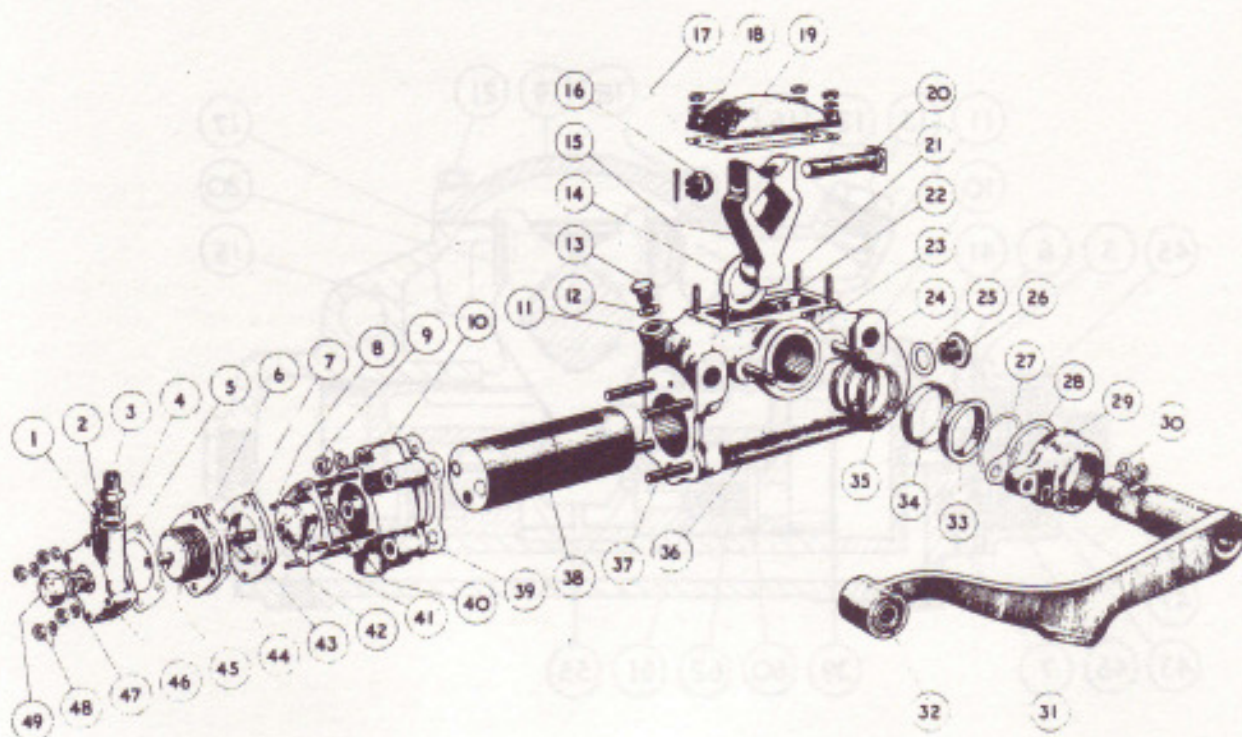
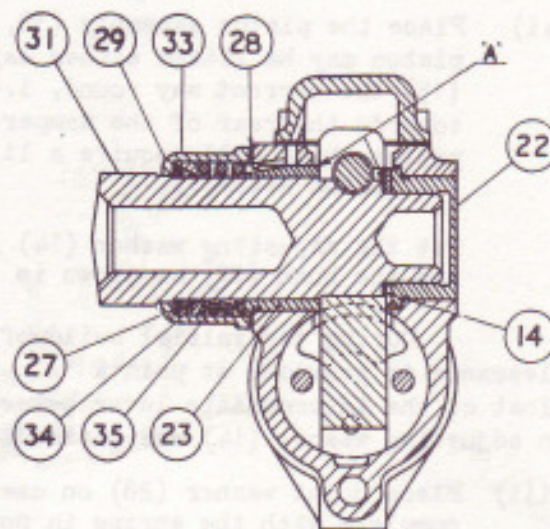

FIG. 1. "EXPLODED" VIEW OF REAR SHOCK DAMPER.
FIG. 3. SECTION THROUGH REAR DAMPER AND GLAND.
- (a) Before attempting to remove the filling plug (13, Fig.1), both the plug and the shock damper casing adjacent to it must be cleaned very carefully with a brush dipped in paraffin, in order to avoid the possibility of dirt entering the hole when the plug is removed.
- (ii) Remove the top cover (19, Fig.1) and the joint washer. Turn the damper upside down and drain the oil from the casing.
- (iii) Leaving the cap nut (49) of the end cover in position, (so as not to disturb the adjusting washer 47) remove the four nuts and spring washers (48) and then remove the end cover (46) together with the bellows (45), taking care not to damage the two joint washers (5 and 6). Collect the spring (43). It may be found that there is a small steel adjusting washer inside the bellows against which the end of the spring (43) rests. If one is fitted then it should be removed to prevent loss. Remove the pressure valve assembly (42) and collect the adjusting washer (40). Remove the valve cylinder (7) and then remove the four nuts and spring washers (9) and withdraw the valve chamber (10) from the main casing (36).
The moulded asbestos and tallow gland (33, Fig.1) should give long service before it requires renewing; however, should there be evidence of an oil leak past the gland then it will be necessary to fit a new one. Fig.3 shows a section through the rear damper and gland.
- (ii) Place the piston assembly (38, Fig.1) in the main casing (36). The piston may be fitted either way round. Holding the intermediate lever (15) the correct way round, i.e. with the slot for the bolt head facing towards the rear of the damper as shown in Fig.1, insert it into the piston which will require a little effort due to the spring-loading of the piston assembly.
Fit the adjusting washer (14) in position between the intermediate lever and the bush (22) as shown in Fig.1 and line up the washer.
During the initial build of a new rear shock damper .002" to .004" clearance is provided at points 'A' - Fig.3, i.e. .004" to .008" total end float of the intermediate lever between the outer bush and the adjusting washer. An adjusting washer (14) was chosen to obtain these clearances.
- (iii) Place joint washer (28) on casing, and then with the gland assembly complete with the spring in position on the shaft of the lever, fit the lever to the casing taking care not to damage the adjusting washer (14). Fit spring washers and nuts (30) on the gland cover studs and progressively tighten up.
- (iv) Fit bolt (20) to the intermediate lever, tighten up nut and secure with a new split pin.
- (v) With the small oil passage hole in the joint washer (39) and the valve chamber (10) at the top, place the joint washer and valve chamber on to the main casing and secure with the spring washers and nuts (9). Place the joint washer (41) followed by the valve cylinder (7) on to the valve chamber. Place the adjusting washer (40) on to the inner end of the pressure valve assembly (42) and then fit the latter into position in the valve cylinder (7). Fit the joint washer (6).
Start the engine and run slowly in top gear, equivalent to about 10 m.p.h., move the "Ride Control" lever to the "Hard" position and then remove the air release plug (21, Fig.1) from the damper. Continue to let the engine run until all the air has been expelled, which will be indicated by a continuous supply of oil escaping from the orifice of the air release plug.